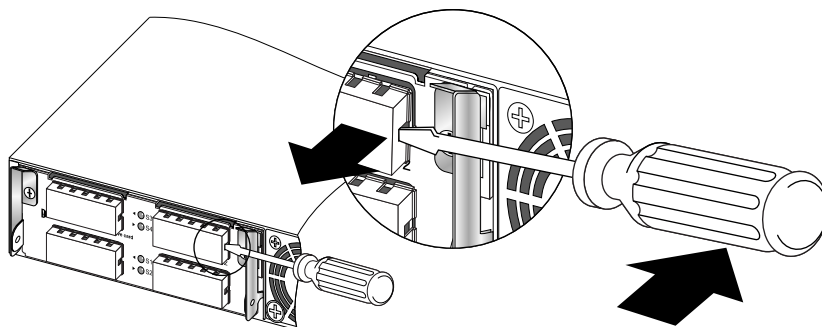

Figure 197: Removing a Connector Cover
- 1 On the side of the connector nearest to the inserter/ejector lever, find the notch between the two end tabs on the cover (see Figure 197: Removing a Connector Cover on page 231).